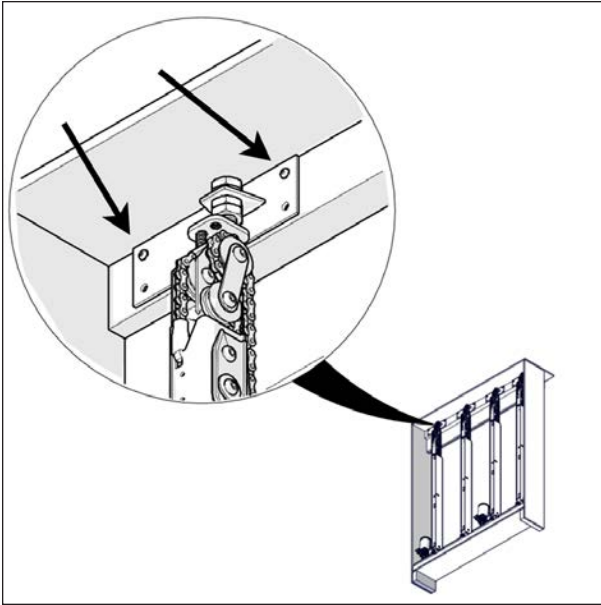

FIGURE 23: JACK TOP SCREW REMOVAL
13. Remove the jack assembly top Robertson #8 x 1.5" screws. Once completed, keep the jack in a safe location on the ground, see Figure 23.